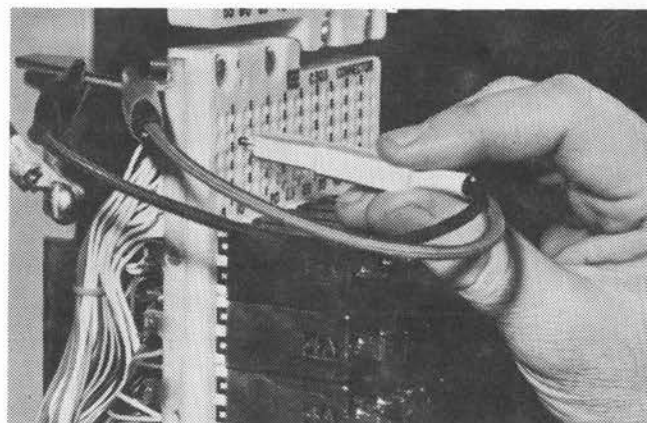

Figure 19
include the temporary mounting of stubless connector and complete wiring diagram. See figure 19 for photograph of stubless connector in wiring position.
- 8.02 A single pair test cord, as shown in figure 19, can be used to test toward outside plant. Push the plug into the test field to make contact with the pair to be tested. Monitor to determine that the line is not being used. Attach test equipment to the test cord and pull the connector module for that pair into the detent position. After testing is completed, push the connector module in to assure that the central office is again connected to the outside plant. Then remove the test cord.